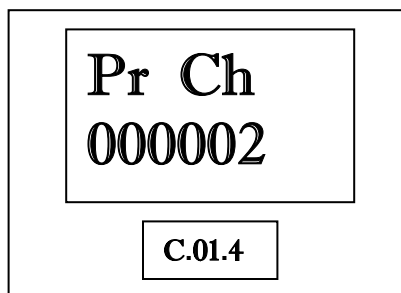

Figure 53
2. Press the **ENTER** button. The main display shows the total number of price changes. The price change counter is incremented each time a price is changed on the nozzle. See Figure 53.